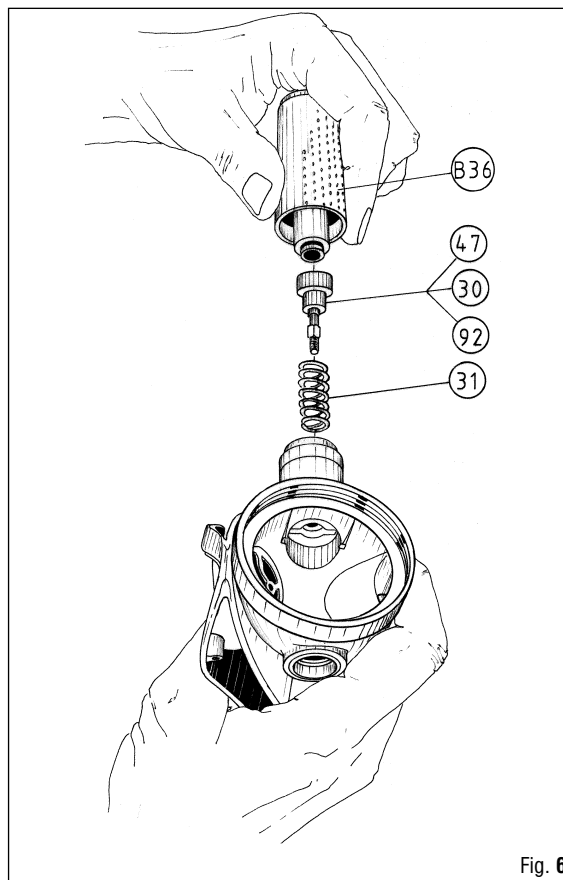

Fig. 6
- B. 1** Position the spring (31) in the 2nd stage case assembly connector (Fig. 6).
- B. 2** Insert the 2nd stage poppet assembly (30-47-92) in the previously inserted spring (31) (Fig. 6).